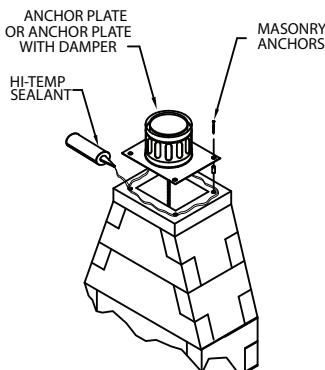

Figure 2
accordingly. Center the Anchor Plate over the masonry flue opening. If a Damper is used, make sure nothing interferes with the damper plate movement. Seal the Anchor Plate in place with a high-temperature sealant. Secure Anchor Plate with four (4) 2" x 1/4" masonry anchors (*Fig. 2*).